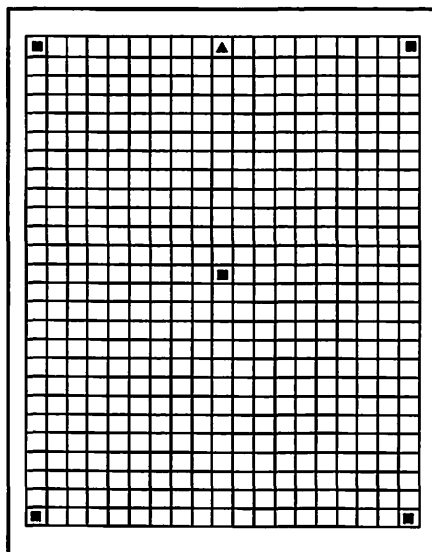

Figure 3-5
- Set the LaserWriter SCSI ID number to seven (7). The LaserWriter ID number must be 7 for the LaserWriter to print a startup test page. Since the Macintosh SCSI ID number is always 7, once you generate the startup test page, you must reset the LaserWriter SCSI ID number to the one you selected in the previous step.
6. Switch on the LaserWriter to generate a startup test page, as Figure 3-5 shows.
If the SCSI ID number is 7, the startup test page in Figure 3-5 prints automatically. The startup test page differs from the networked LaserWriter startup page.